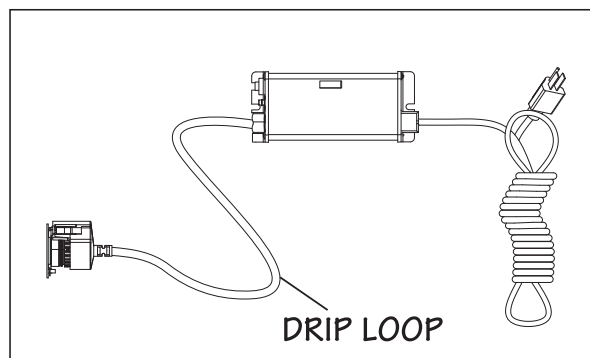

Figure 5 Drip Loop
- The controller should be mounted either above or beside the chamber. Always mount controller horizontally to prevent moisture from running down cordage and causing a potential fire hazard. Drip loops in all cordage connected to controller is highly recommended. Refer to Figure 5.
4. Mount the VIQUA ICE controller horizontally to the wall, near the chamber. Ideally place the controller above the reactor and away from any water connection point, to prevent any water from potentially leaking onto the controller by means of a leak at a connection point or a “sweating” system. Make sure you allow for a “drip-loop” as shown in Figure 5 on the lamp, and power cord, again, to prevent any water from potentially entering the controller.